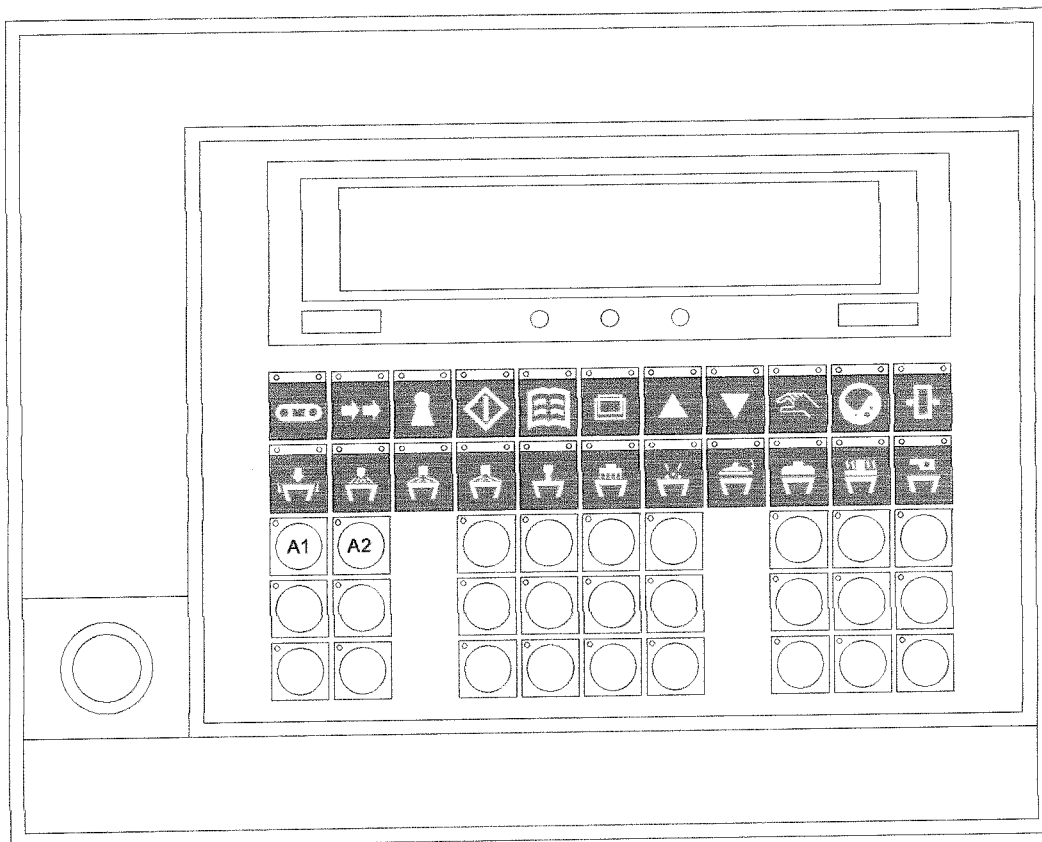
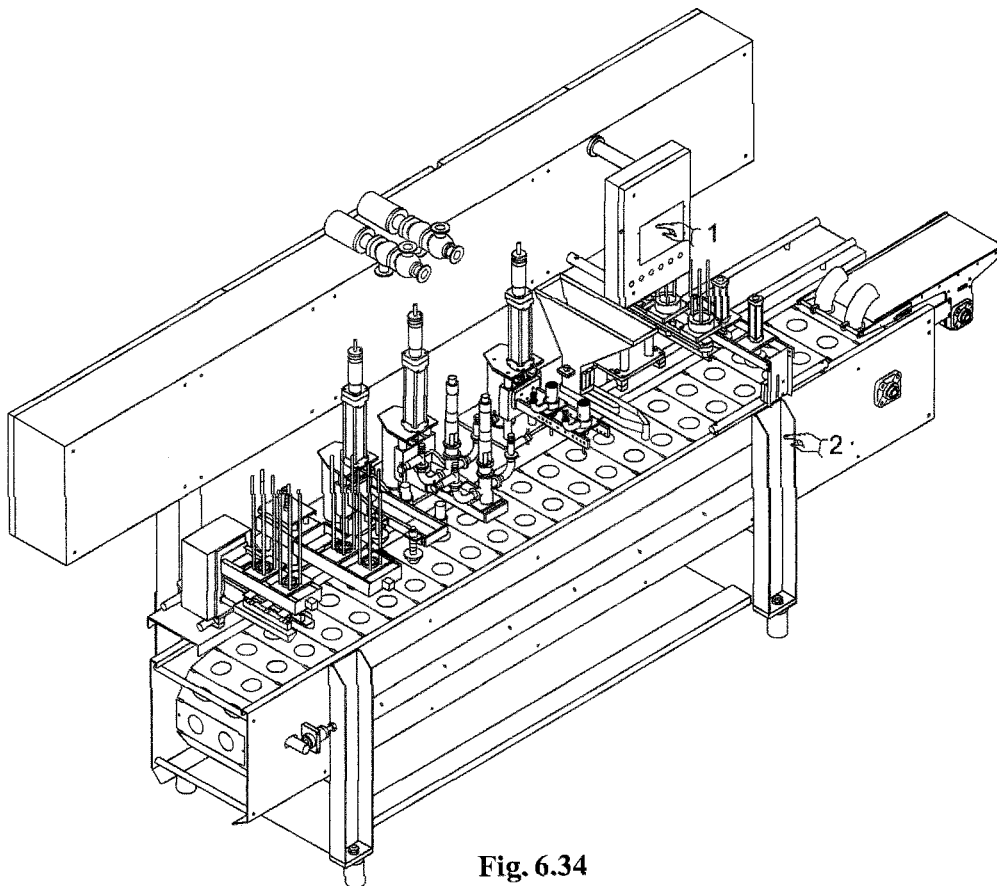

Fig. 6.33
Fig. 6.34
- b. Press the chocolate tank heater button A1 (Fig. 6.33).
- g. Position the bypass valves to feed the dosers by pressing button A2 (Fig. 6.33).
- i. Press the run and doser start-up button  (Fig. 6.33). The lamellas will start moving.
If any component malfunctions, press the emergency stop buttons (*Part. 1/2, Fig. 6.34*) to disable all the machine's electrical functions.
To reset the machine, first remedy the cause of the malfunction, rotate the emergency stop button (*Part. 1, Fig. 6.34*) anticlockwise and release it, then press
the reset button  (*Fig. 6.33*) on the operator interface panel or press the button on the cord emergency stop switch (*Part. 2, Fig. 6.34*) and then press the reset button  (*Fig. 6.33*).
- Press the end of production button  (*Fig. 6.33*). All the operating stations in memory will stop automatically.